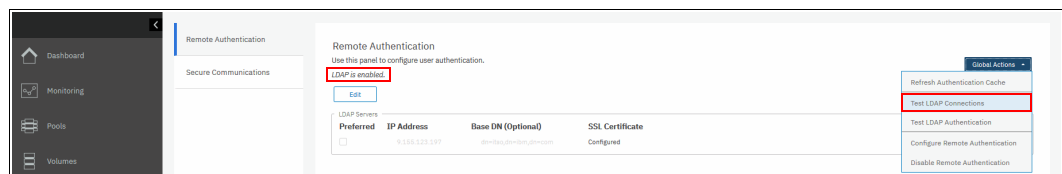

Figure 3-60 Verifying that LDAP is enabled
4. To verify that LDAP is enabled, select **Settings** → **Security** → **Remote Authentication**, as shown in Figure 3-60. You may also test the server connection by selecting **Global Actions** → **Test LDAP connections** and verifying that all servers return “CMMVC7075! The LDAP task completed successfully”.
4. To test the user authentication, select **Settings** → **Security** → **Remote Authentication**, and then select **Global Actions** → **Test LDAP Authentication** (for an example, see Figure 3-60 on page 152). Enter the user credentials of a user that is defined on the LDAP server and click **Test**. A successful test returns the message “CMMVC70751 The LDAP task completed successfully”.